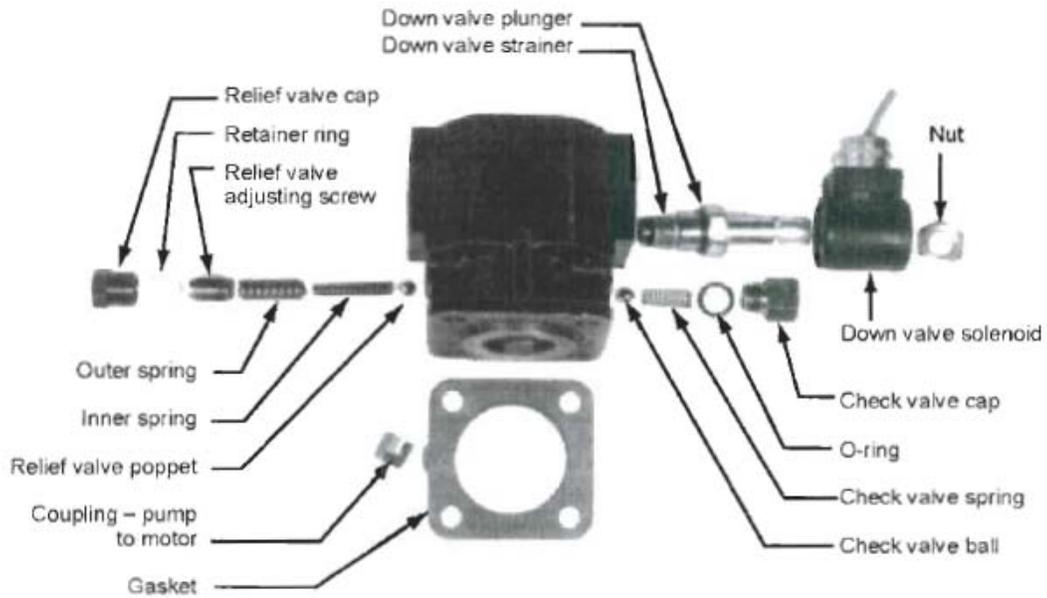

Fig. 15 - Hydraulic Pump and Down Valve
- Disassemble the down valve as shown in Fig. 15. Blow the valve plunger clean with compressed air. Reassemble and reinstall.
If the pump has been changed, the coupling may not have been installed. See the pump assembly in Fig. 15.
2. The check valve may be leaking. Dirt on the valve seat will prevent the valve from closing fully. The check valve is mounted in the base of the pump housing, as shown in Fig. 15. Remove the check valve cap and inspect the valve for dirt or metal chips which may be preventing it from closing. You may be able to restore the seal by lightly rapping the ball into the seat using a 1/4" diameter rod and a small hammer.
The down valve may be de-energized. When the lift is lowering, the down valve should be energized and fully open. Check the solenoid in the valve with a volt meter. The valve must also be clean and free to operate. Remove the solenoid, then the down valve. Look for contamination which could block the valve action. Clean the valve plunger with kerosene, then blow it clean with compressed air. The strainer screen over the lower part of the plunger must be clean. See Fig. 15. Before reassembly, depress the plunger manually several times to be sure it moves freely. The expansion nut which holds the solenoid should be finger tight only!